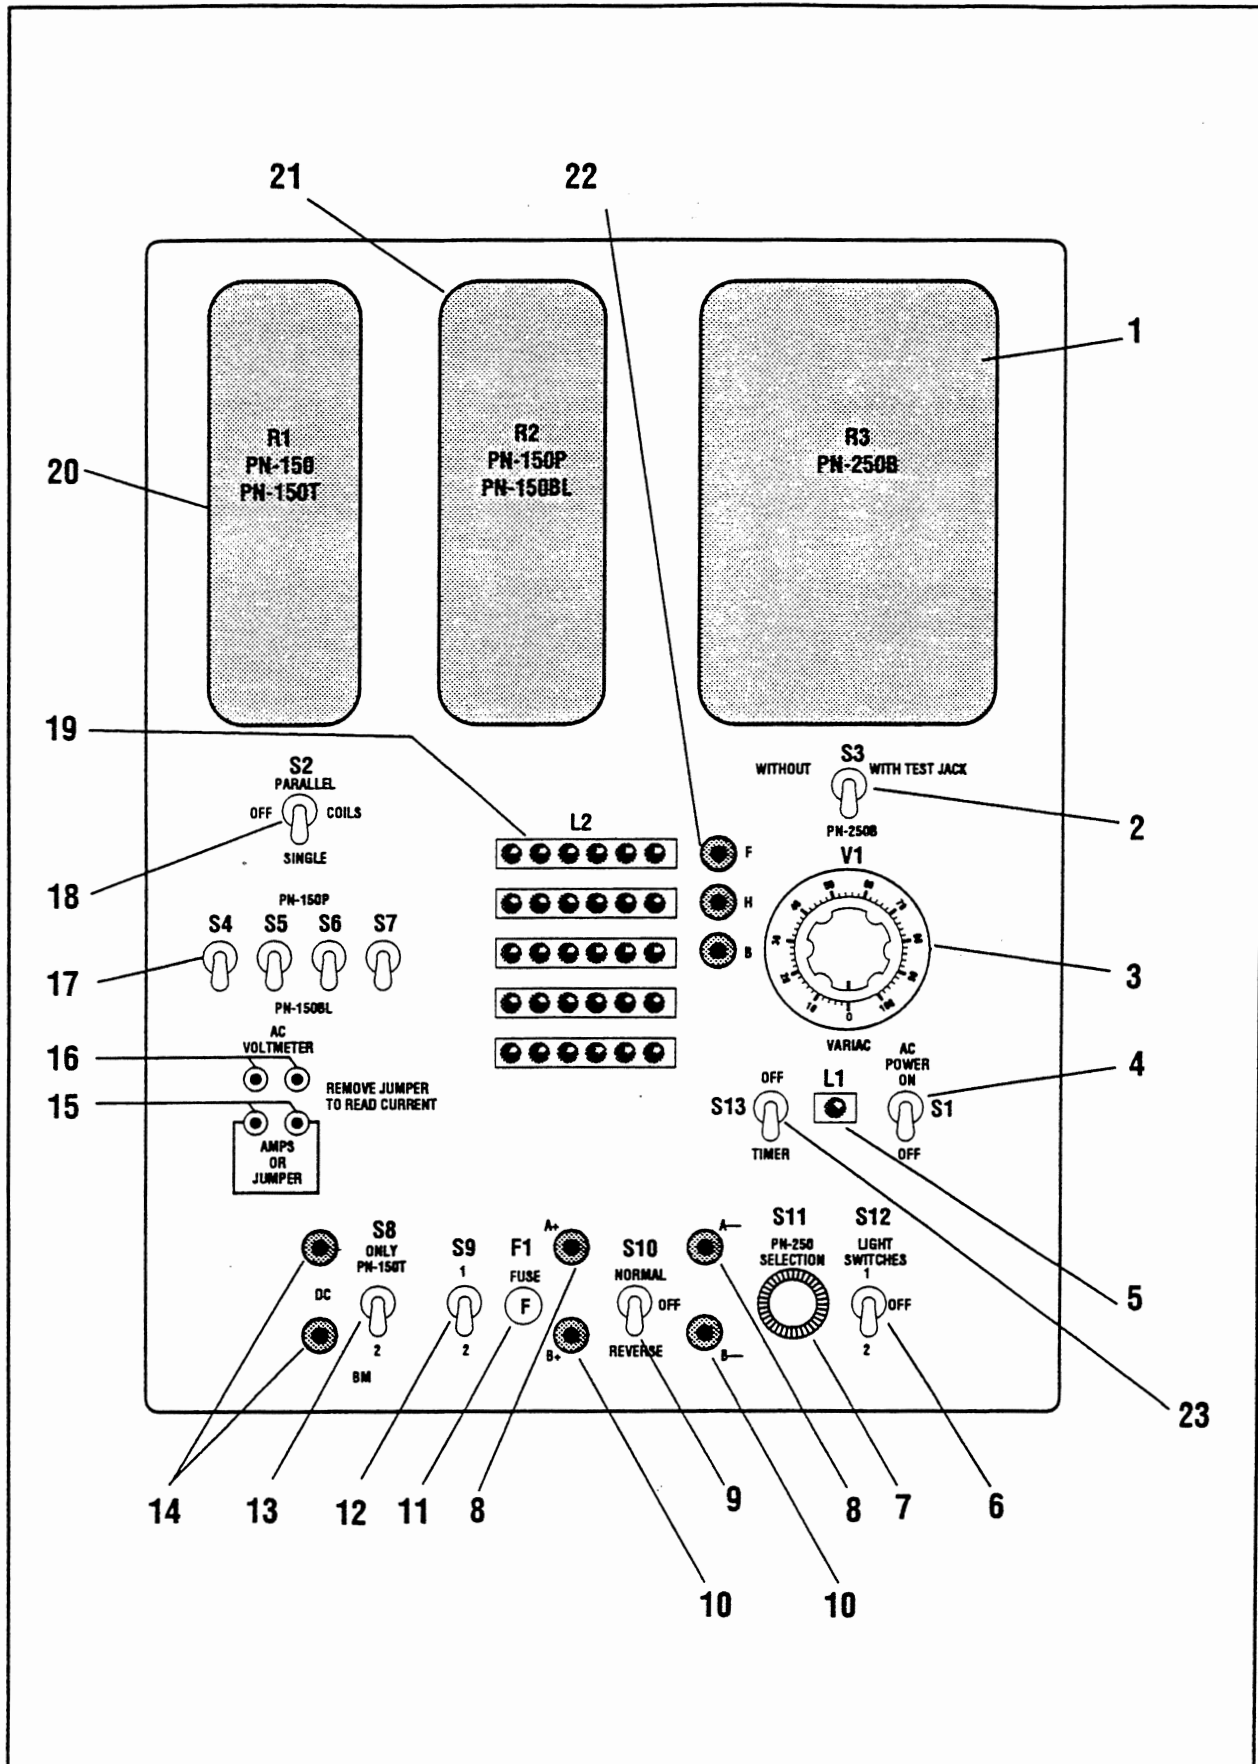
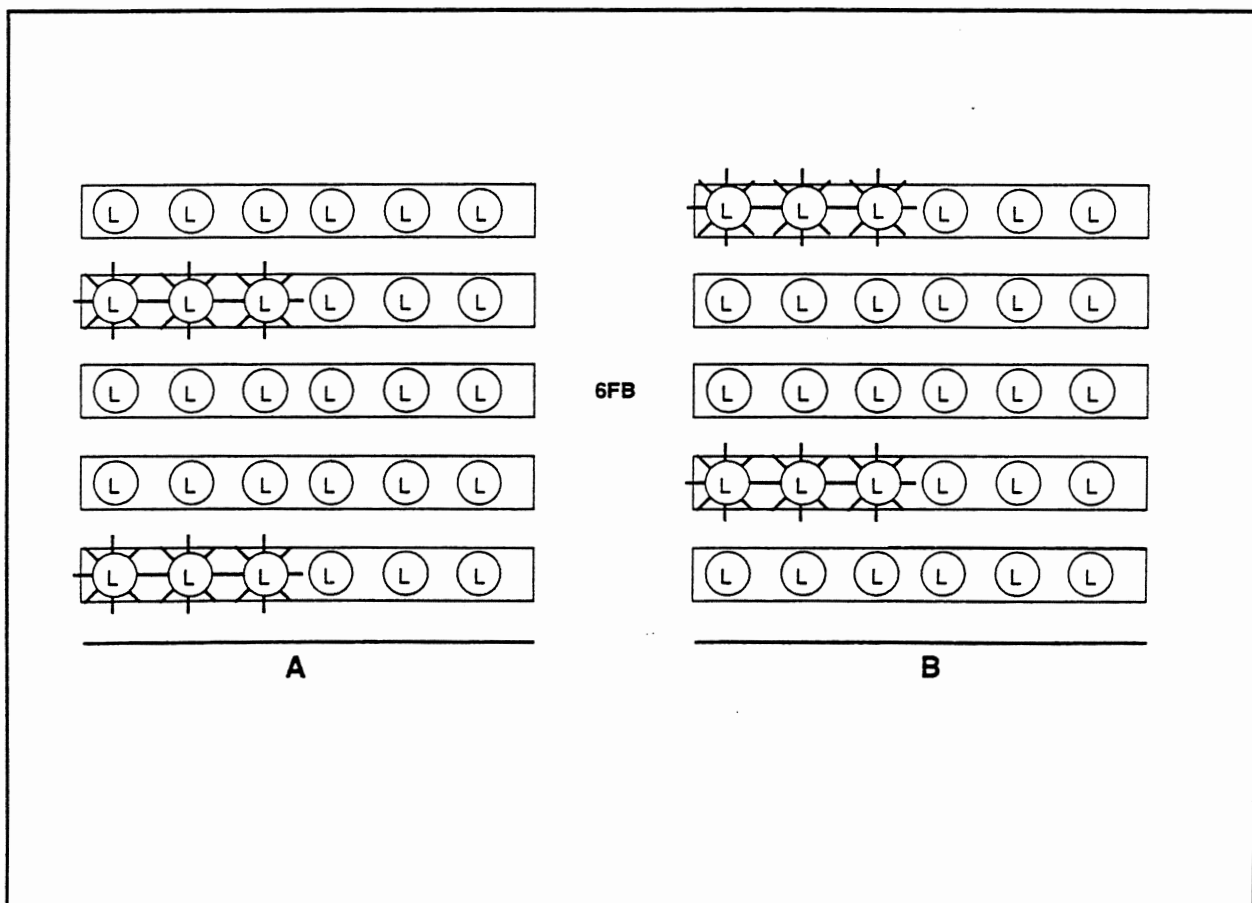

Figure 3-2. DC Relay Test Stand, Controls and Indicators
Figure 3-3. Basic Contact Indicators Configuration
Refer to Table 3-1 and Figure 3-2 for the location and function of each test stand control and indicator. It must be remembered that all of the test stand controls and indicators are not used for the testing of PD-1 relays.
Located in the center of the test stand (Figure 3-2, item 19) are 30 contact indicators. The contact indicators are arranged in five rows of six indicators per row. During the tests, the indicators provide a visual indication of the relay's contact configuration and whether they are open or closed. During PD-1 relay testing, as shown in Figure 3-3, the contact indicators in columns 1 through 3 only are used. Row A and D indicate Front contact closure, Row B and E indicate Back contact closure. The Heels (H) can be imagined
In the following test stand setup procedure, the item numbers are those used on Figure 3-2: